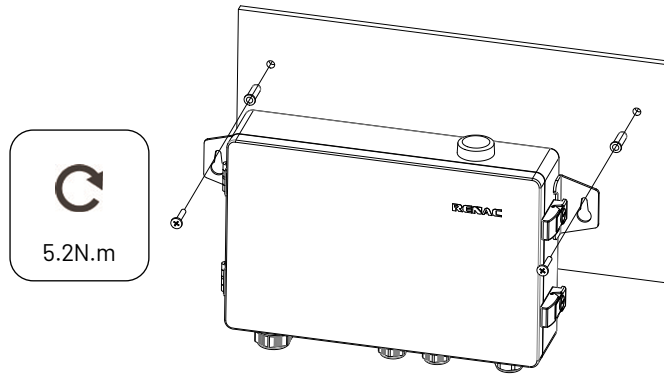

Figure 4-10 Wall mounting
(5) Fix the wall mounting EMB-100 on the wall with expansion bolts in accessory bag. Refer to Figure 4-10.